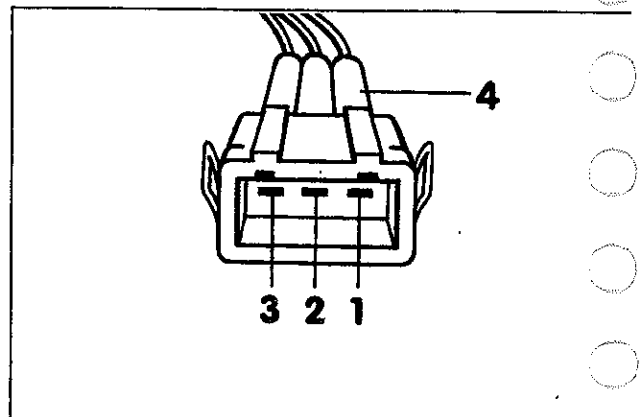

Fig. 4. 3-pin connector from 4-cylinder coil power output stage.
2. Connect a voltmeter across terminals 1(–) and 3(+) of the connector. Turn the ignition on and check for battery voltage. See Fig. 4.